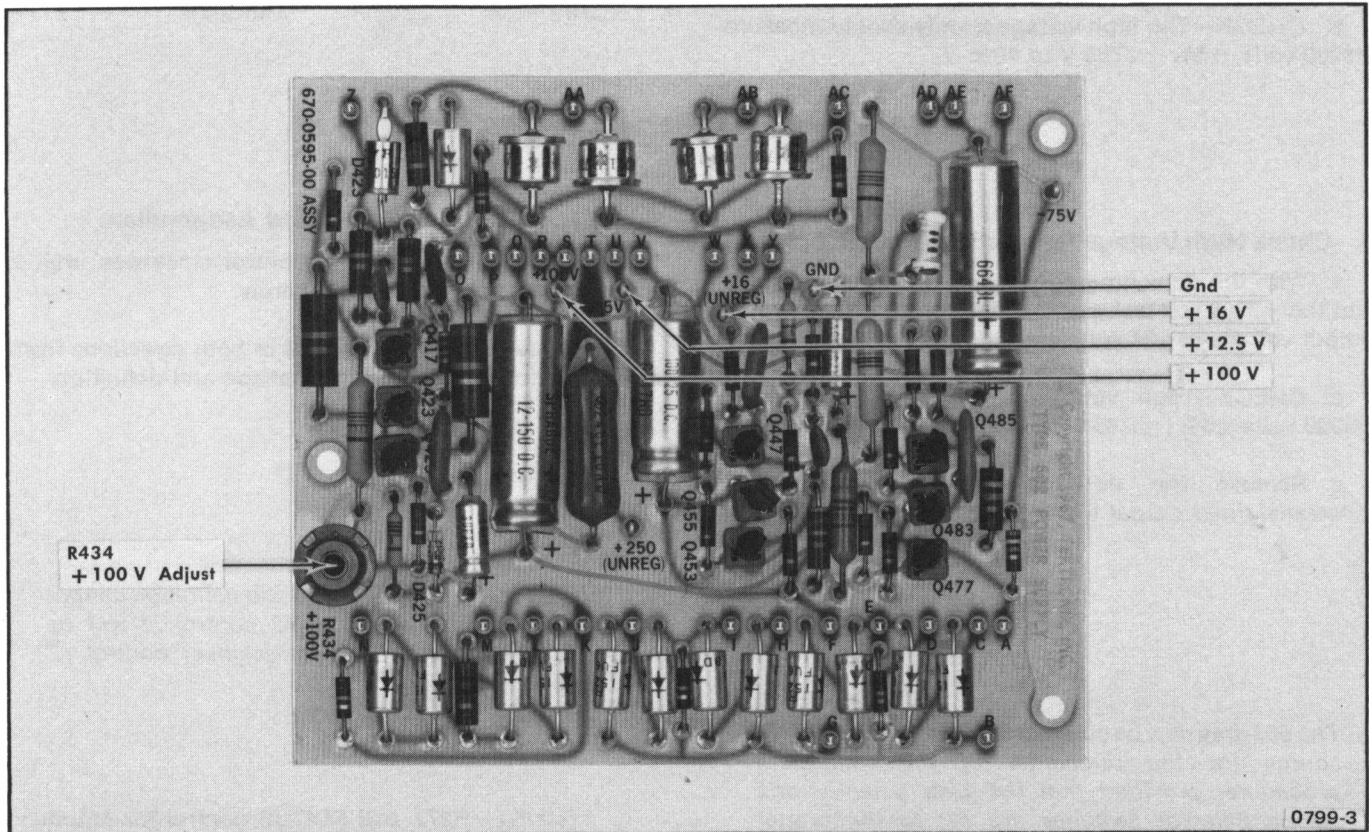

Fig. 5-1. Locations of power supply test points and R434, +100 volt adjustment.
a. Connect the digital voltmeter between the +100 volt test point and ground (see Fig. 5-1).
b. ADJUST—R434, +100 V (Fig. 5-1), for exactly +100 volts.
a. Connect the digital voltmeter successively between each low voltage test point and chassis ground. See Fig. 5-1 for test point locations.